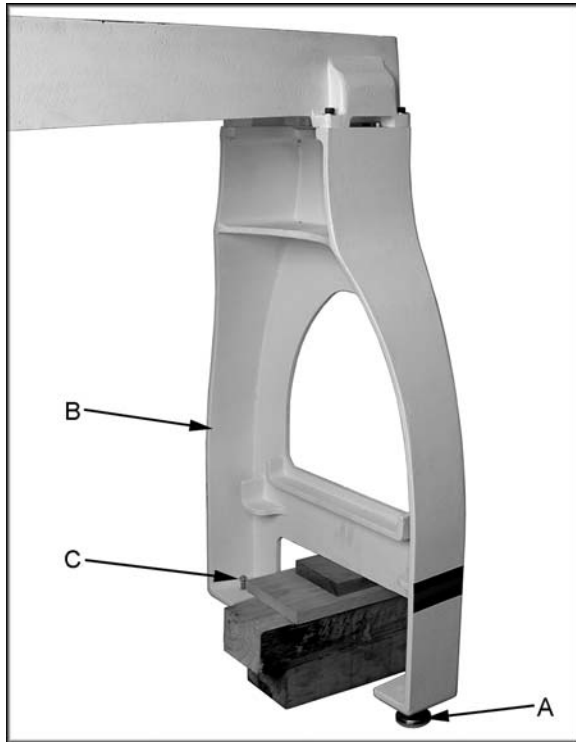

Figure 2
Carton contents (see Figure 2)
3. Lift the tailstock end of the lathe up far enough to slide a few pieces of scrap wood under the leg, see Figure 2.
4. Thread adjustable feet (A, Figure 2) into stand leg (B, Figure 2). There is a flat spot on the shaft near the foot that will accommodate a wrench. Thread a hex nut (C, Figure 2) onto shaft and leave loose for now.